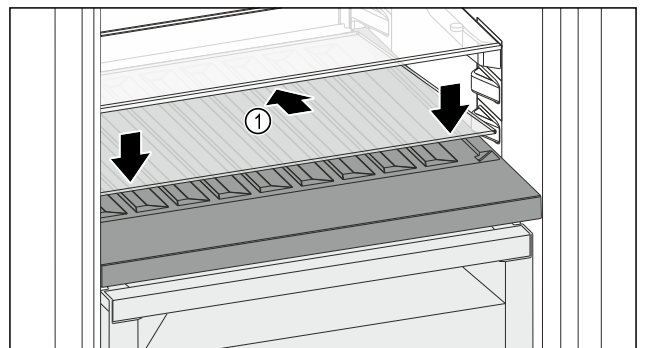

Fig. 185
- ▶ Place the glass shelf Fig. 185 (1) at an angle, sloping it downwards and backwards.
- ▶ Lower the glass shelf Fig. 185 (1) at the front.